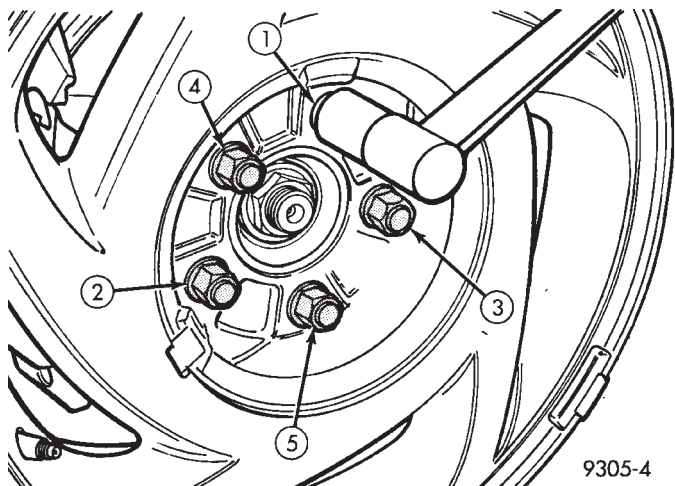

Fig. 19 Tightening Wheel Nuts
(10) Install wheel and tire assembly on vehicle. Tighten the wheel mounting stud nuts in proper sequence (Fig. 19) until all nuts are torqued to half specification. Then repeat the tightening sequence to the full specified torque of 129 N•m (95 ft. lbs.).
(11) Lower vehicle to the ground.